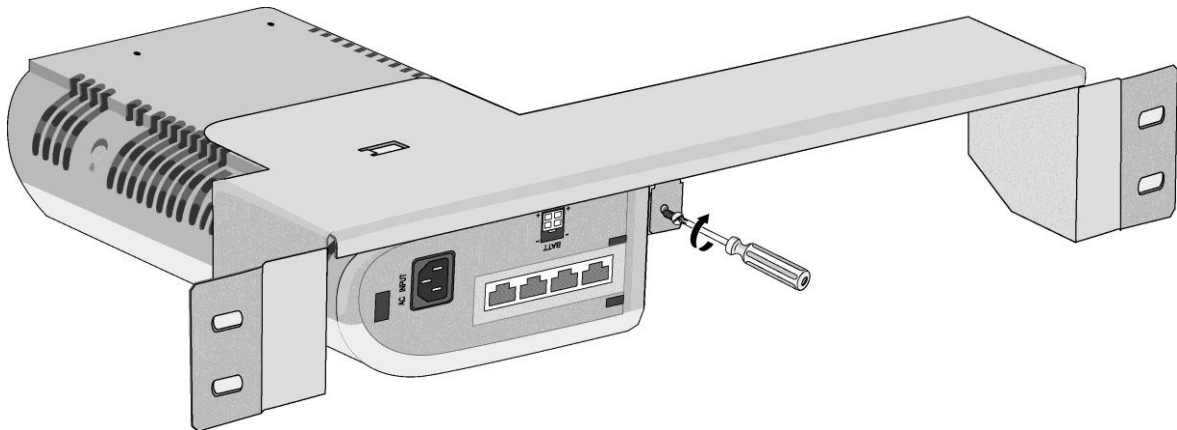

Figure 4.3.3.2 Tightening Rack bracket
3. To attach an expansion module to the rack, affix the bracket with the 4 screws provided (Figure 4.3.3.3)